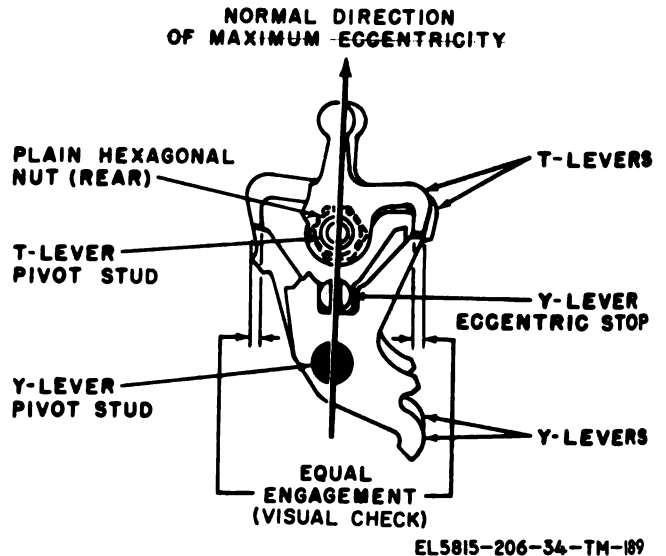

Figure 3-117. T-lever pivot stud adjustment.
3-150. T-lever Pivot Stud Adjustment (fig. 3-117)
c. *Adjustment.* Loosen the plain hexagonal nut on the rear of the T-lever pivot stud. Position the T-lever pivot stud to the normal direction of maximum eccentricity, as shown in figure 3-117. Then reposition the pivot stud to meet the requirement in